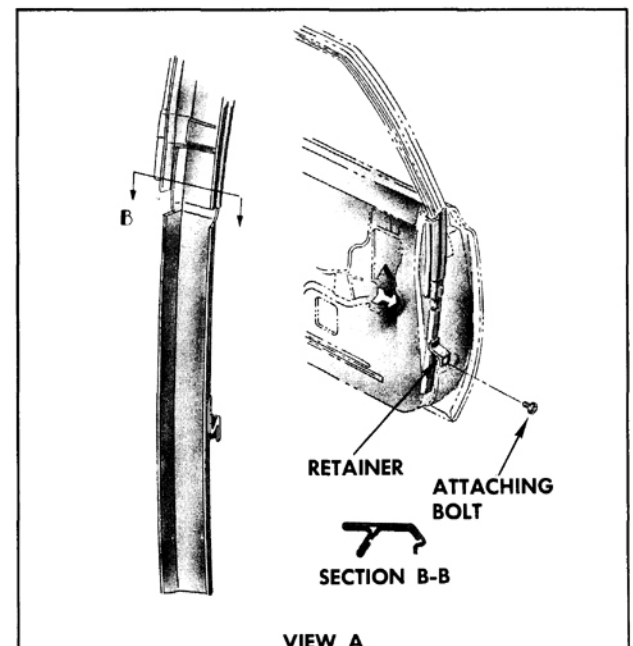

Fig. 16-339 Glass Run Channel Lower Rear Retainer
2. Remove door window glass run channel lower rear retainer attaching screw and remove retainer through large access hole. (Fig. 16-339)
3. Remove glass run channel lower rear retainer and front door ventilator assembly. (Figs. 16-339 and 16-340)